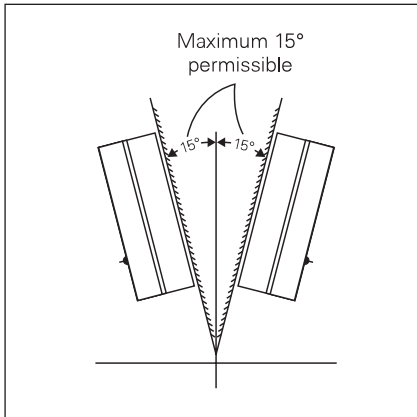

Fig. 5 Maximum permissible displacement from vertical plane
- Mount starter on a vertical wall / plate free from vibrations, with proper nuts and bolts. Refer fig. 11 for mounting dimensions, and also fig. 5 for permissible displacement.